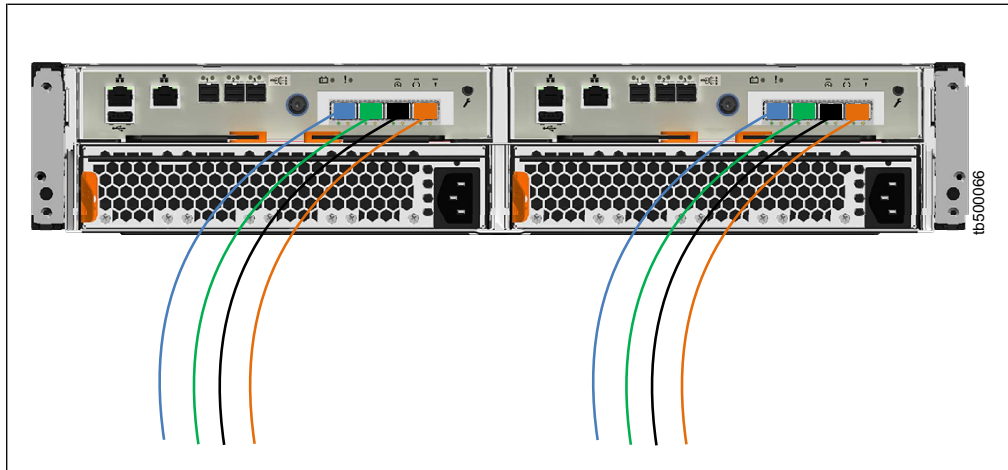

Figure 30. Example Storwize V5020 configuration with four Fibre Channel cables per canister
2. If you want to connect additional Fibre Channel cables, make sure to connect the same number of cables to each canister. Figure 30 on page 36 shows an example Storwize V5020 configuration with four Fibre Channel cables connected to each canister.